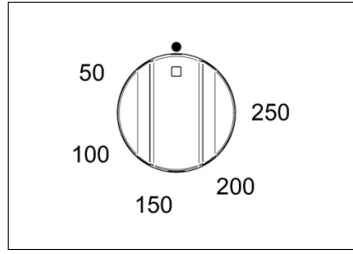
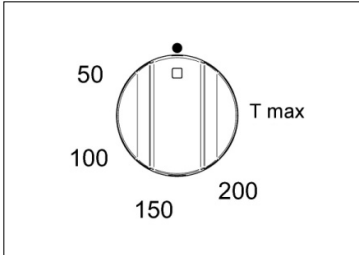
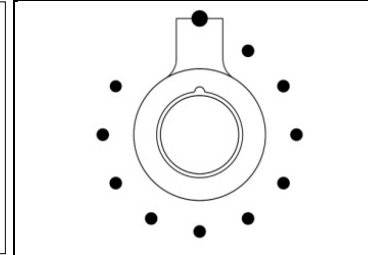

Fig 29A
Fig 29C
Fig 30
**2** Turn the temperature selector knob (Fig.29A-29B and Fig.30 for PRO T version Only or Fig.29C -29D for hybrid version only) clockwise to the desired temperature. The orange light will go out once the